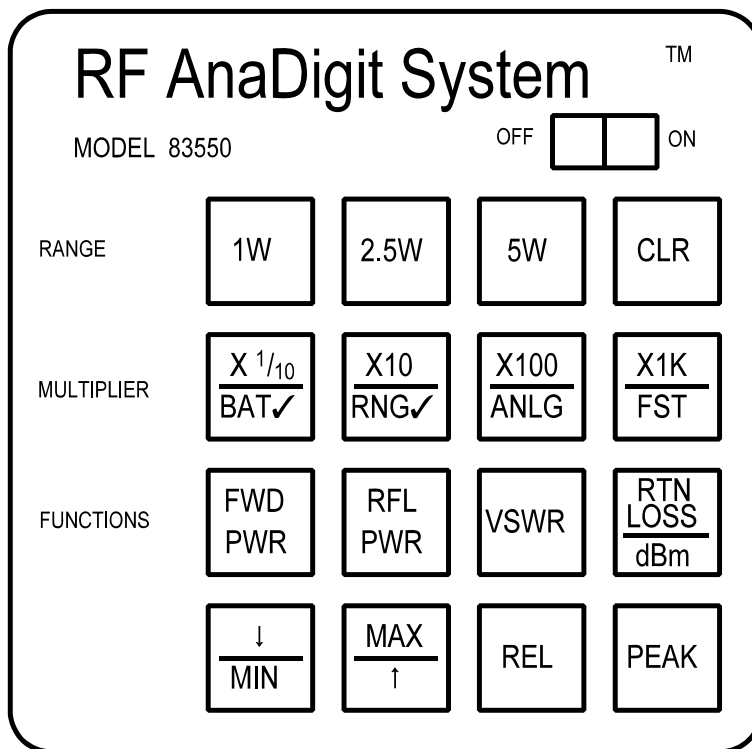

Figure 1 - Keypad
The keypad (Figure 1) consists of three (3) main sections - RANGE, MULTIPLIER and FUNCTIONS. The RANGE allows for both forward and reflected power scales to be entered. MULTIPLIERS may or may not be used depending on whether or not your full scale range is a multiple of the power scale you designated. After building your full scale ranges, the FUNCTIONS keys will be activated for your use.